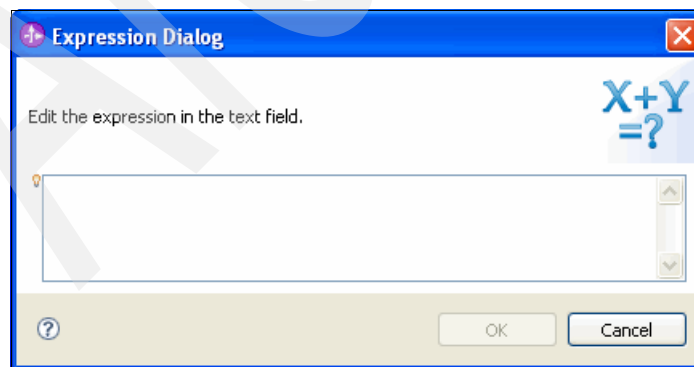

Figure 8-61 Expression Dialog
- In the Expression Dialog (Figure 8-61), click the blank area and press Ctrl+Spacebar to activate the Content Assist.